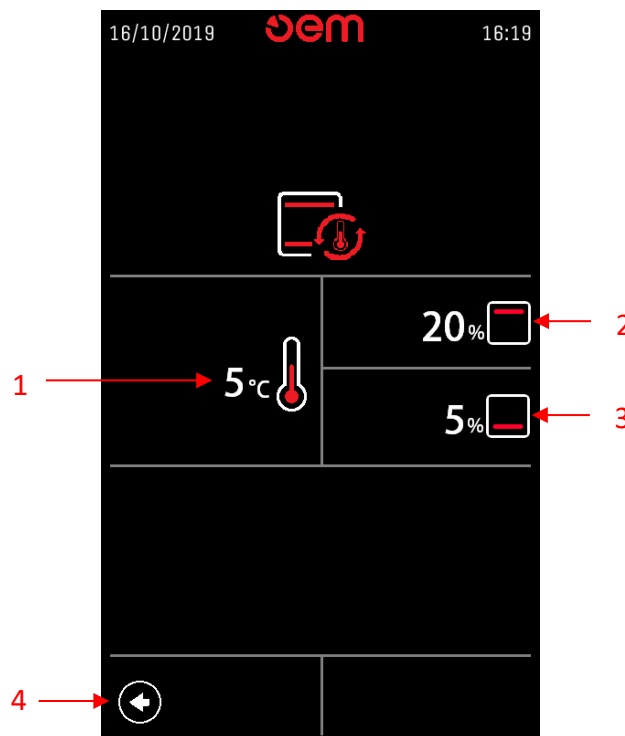

Fig.8
6.3.7 Cooking Assistant (Fig. 8)
- Press the TEMPERATURE button (Fig. 8 – Pos. 1) to set the temperature difference to which the Cooking Assistant intervenes;
- Press the button relating to the Upper Heating Elements (Fig. 8 – Pos. 2) to *increase* or *decrease* the percentage of the same when the Cooking Assistant is active;
- Press the button relating to the Lower Heating Elements (Fig. 8 – Pos. 3) to *increase* or *decrease* the percentage of the same when the Cooking Assistant is active;
Once the desired parameters have been set, press the Back button to confirm (Fig. 8 – Pos. 4).